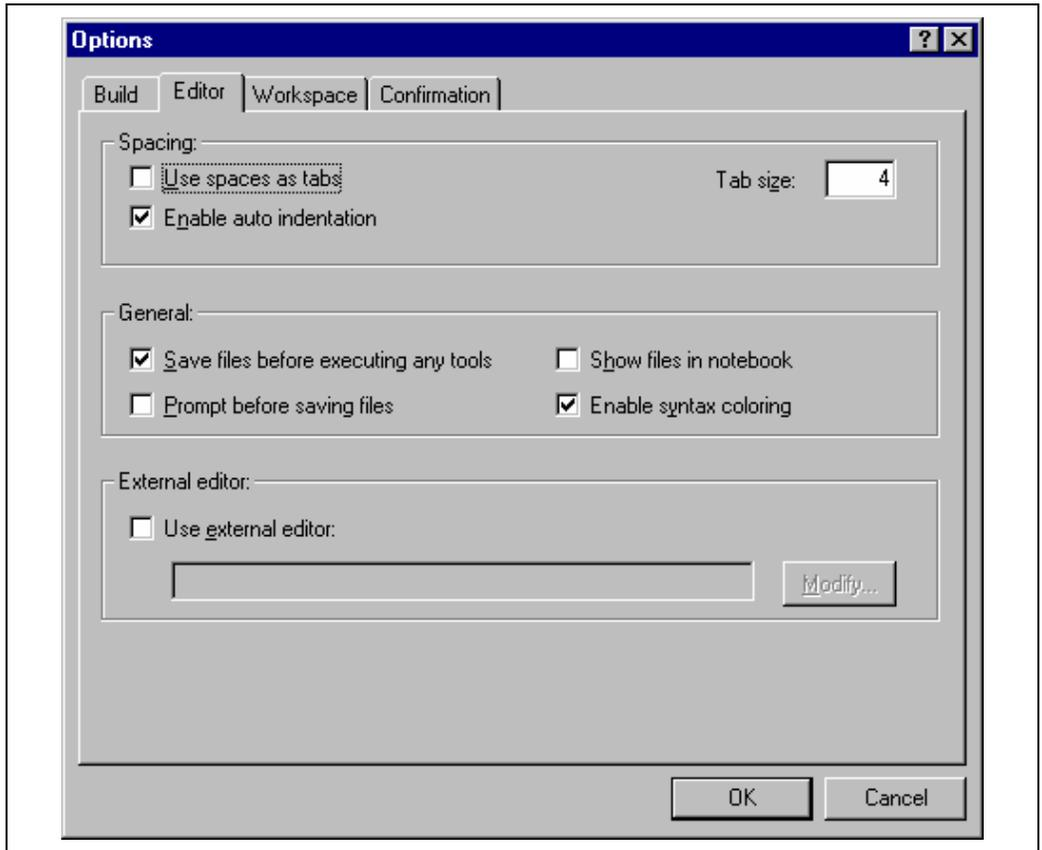

Figure 4.7: Options Dialog Editor Tab
1. Select [**Tools->Options...**]. The “Options” dialog will be displayed. Select the “Editor” tab (figure 4.7)).
1. Select [**Tools->Options...**]. The “Options” dialog will be displayed. Select the “Editor” tab (figure 4.7).